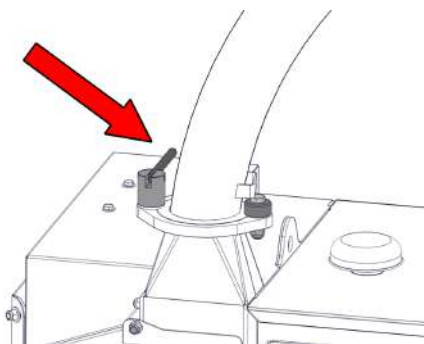

Figure 5 - Discharge Tube Locking Nut
1. Slacken the locking nut using the integral handle (Figure 5).